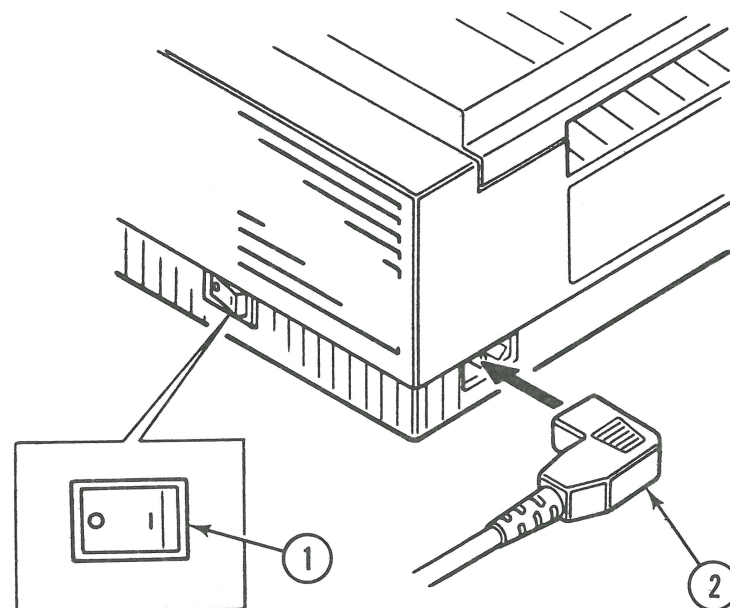

FIGURE 1
- IPL.5 Assembly Location (Figure 1)
- SF-IPL.3 Cut SheetFeeder (Figure 1)
1. Make sure the printer is turned off (Figure 1, #1).
2. Connect the power cord to the printer (Figure 1, #2).